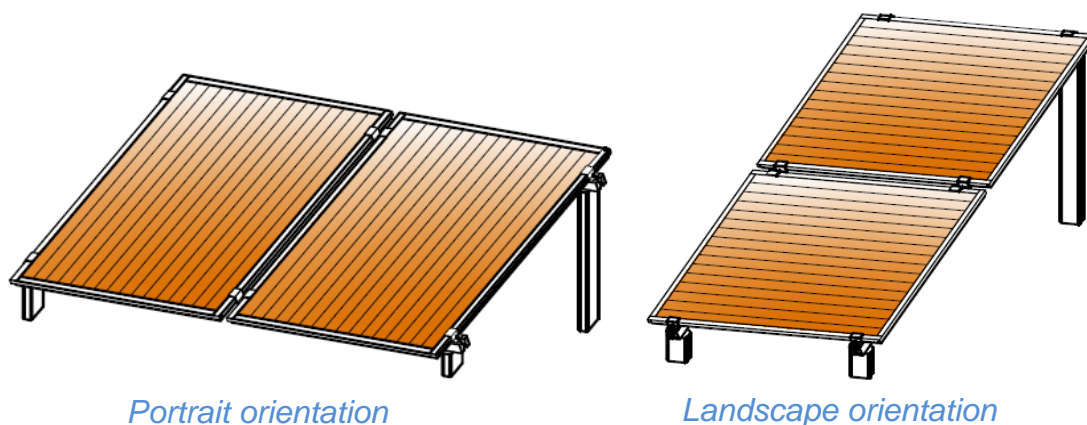

Fig. 1: PV Module mounting configuration
- ⚠ The PV module can either be installed in portrait or landscape orientation (Fig. 1), however portrait mounting is strongly recommended. Following conditions must be conformed during design phase.